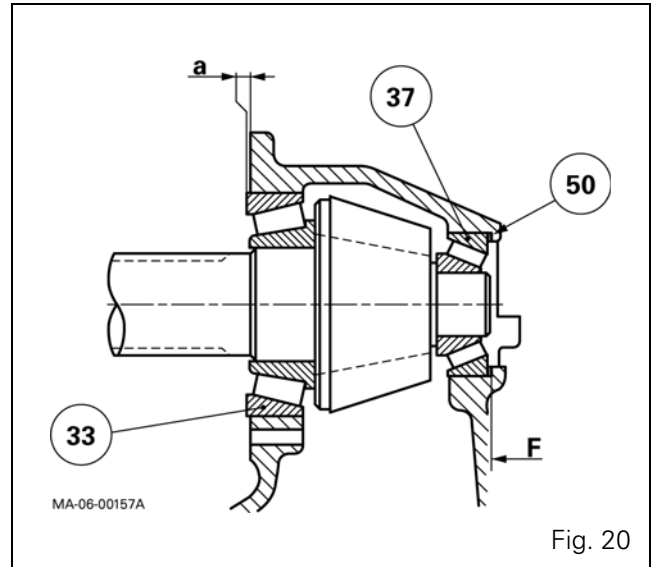

Fig. 20
73. Set a thickness of shims greater than the protruding dimension "A" on the bearing cup (33) measured in relation to the housing face (Fig. 20) to obtain a provisional clearance of 0.10 mm to 0.15 mm maximum for the pre-load shimming that follows.
74. Screw two diametrically opposed guide studs on to the housing. Place the shims (36) determined in operation 73 and fit the thrust plate (35).
75. Fit and tighten screws (32) to 90 - 120 Nm after removing the guide studs.
- The slave device must be inserted flush with the face "F", the notch turned upwards so as to not interrupt the hydraulic flow (Fig. 20). Eliminate any traces of Loctite after assembly, tighten and lock the nut (51), used to hold the pipe (47).